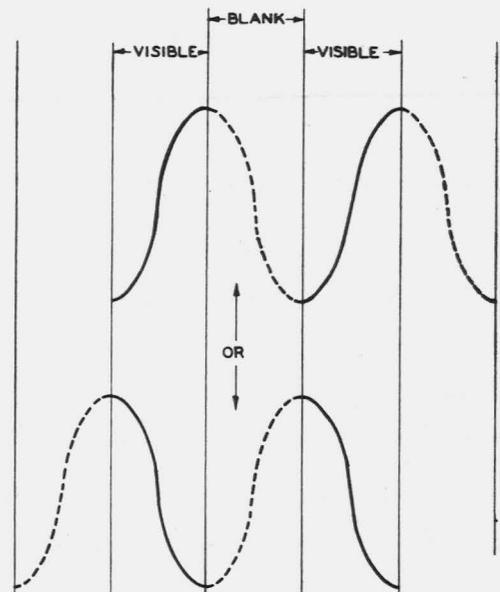

Fig. 1 - Scope Pattern for Proper Sweep Phase Setting
(2) Connect the oscilloscope Y-SIGNAL INPUT to the SINE SWEEP jack on the meter and control panel and adjust X and Y amplifier gain controls to obtain a pattern approximately 2" square.
(3) Adjust the SWEEP PHASE control and the FINE FREQUENCY control (on the oscilloscope) until the pattern appears similar to Fig. 1. Leave the control set at this point.